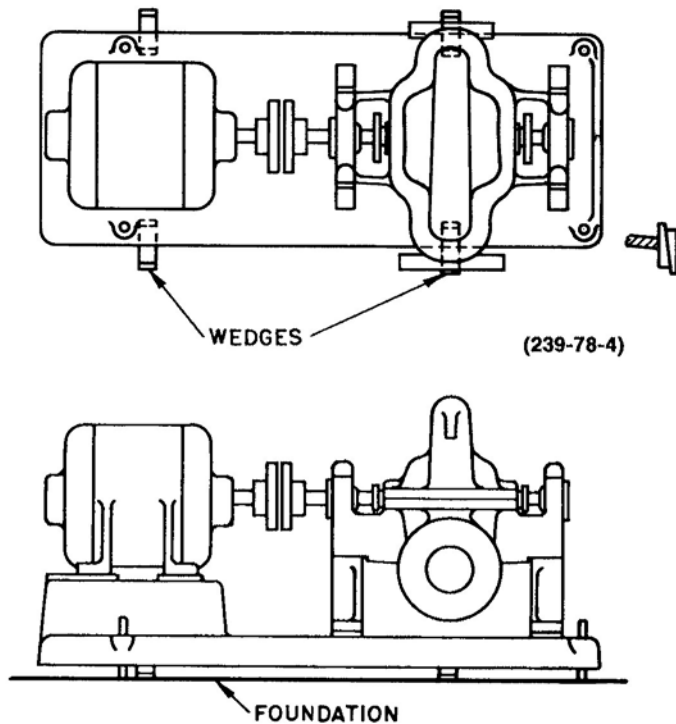

Figure 2:
- a) Put the pumping unit in place on the wedges. The wedges should be placed at four points, two below the approximate center of the pump and two below the approximate center of the driver (See Figure 2: on page 10). Some installations may require additional wedges near the middle of the bedplate.